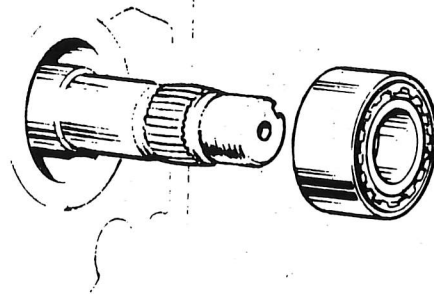

Fig.40. REAR LAYSHAFT BEARING
16. Using Special Tool (25A), and from outside the casing (Fig.40), fit the rear layshaft bearing, so that it is flush with the casing.